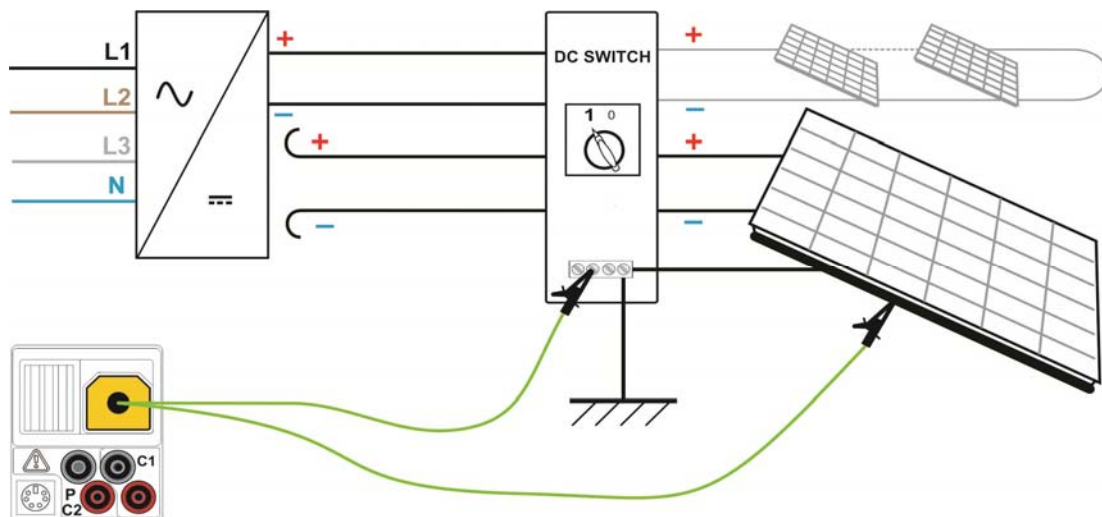

Figure 5.6: Connection for R LOW Ω test
- ❑ **Connect** the test leads to the appropriate PE wiring (see Figure 5.6).